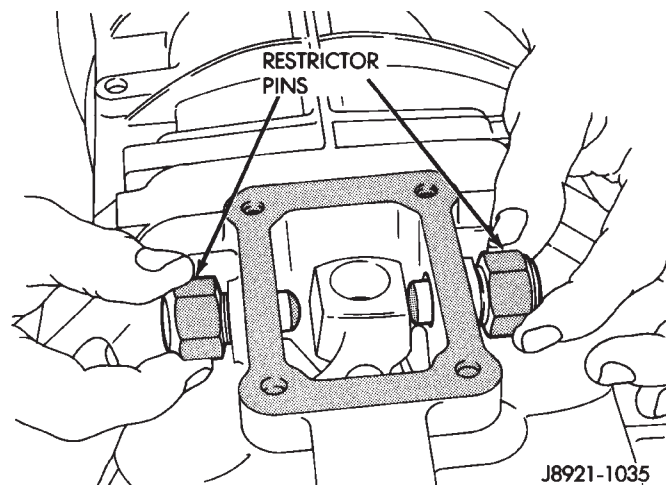

Fig. 43 Install Shifter Restrictor Pins
(15) Install shift restrictor pins in shift tower and tighten to 27 N·m (20 ft. lbs.) (Fig. 43).